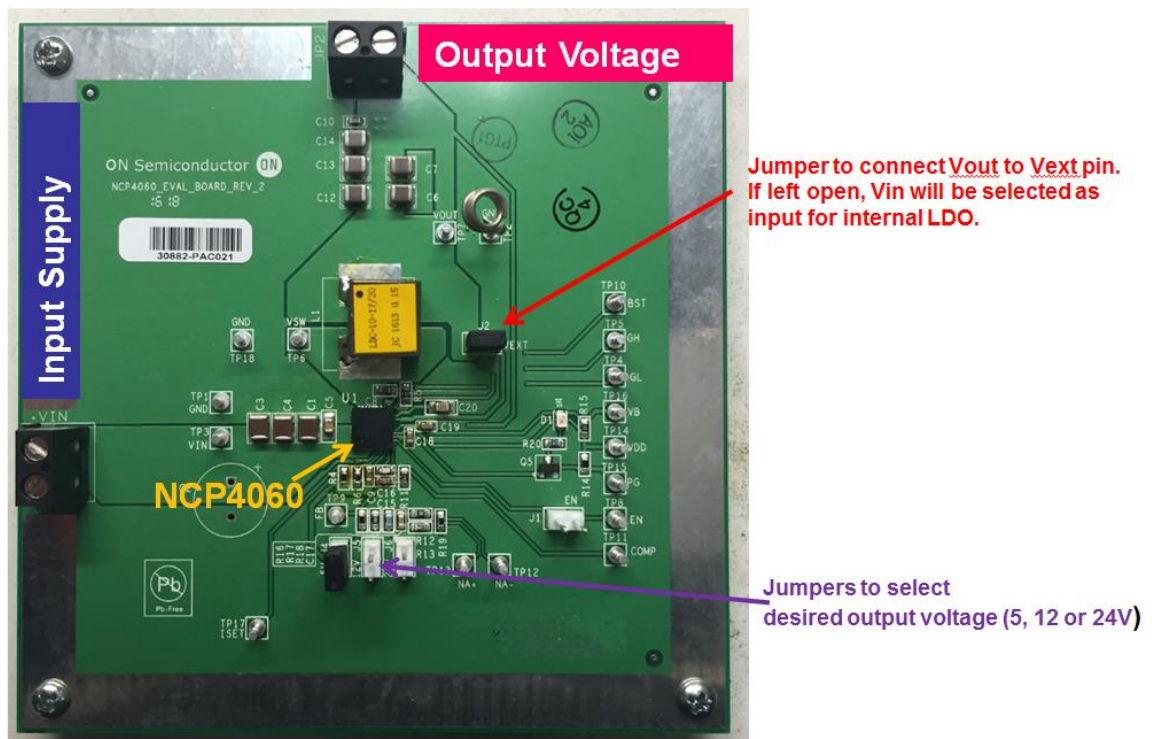

Figure 2: VEXT Jumper and VOUT Jumpers
5. V_{out} can be set to 5, 12 and 24V (See Figure2) in this setup $V_{out} = 5V$
Note: VCC and VIN are connected together on the EVB. (See Application Schematic) There are three jumpers to select the desired output voltage. The output voltage can be set to 5,12 or 24V (See figure 2)